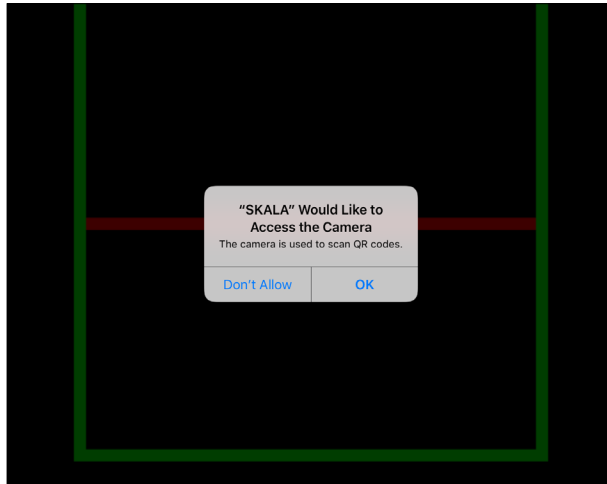

Figure 15 SKALA requests access to iPad camera
The iPad camera app will open, and a dialog will appear asking for permission to access the camera (Figure 15).
4. Select **OK** in the Camera app dialog window message to give SKALA access to the iPad's camera (Figure 15).